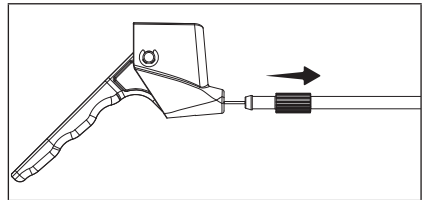

Figure 76
6. On the trigger end, disconnect the connector. This will require some effort to disconnect. (Fig. 76)